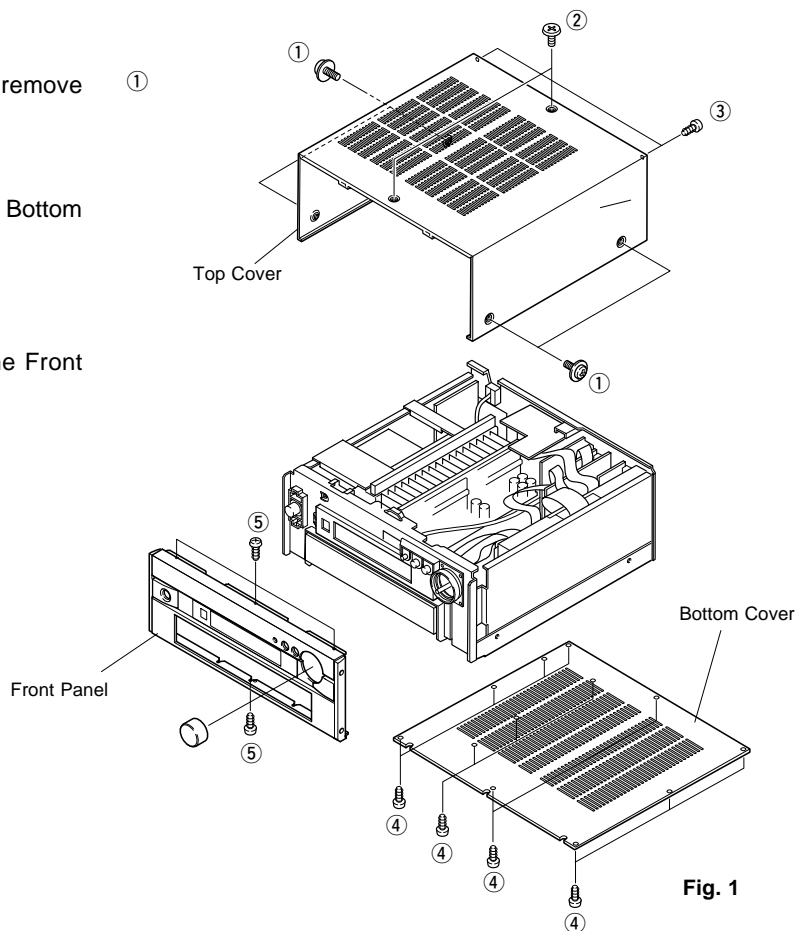

Fig. 1
Remove 8 screws (①, ② and ③) and then remove the Top Cover in Fig. 1.
a. Remove 13 screws (④) and then remove the Bottom Cover in Fig. 1.
a. Remove a knob in Fig. 1.
b. Remove 4 screws (⑤) and then remove the Front Panel in Fig. 1.